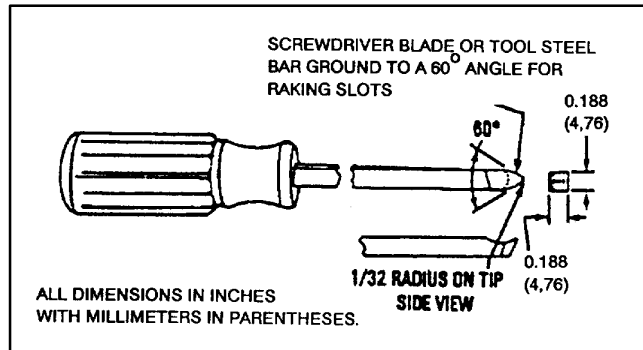

FIG. 12. COMMUTATOR SLOT RAKING TOOL. E-19771A.
- See Fig. 12 for slot raking tool. Rake the commutator slots to remove projecting mica fins or copper whiskers.